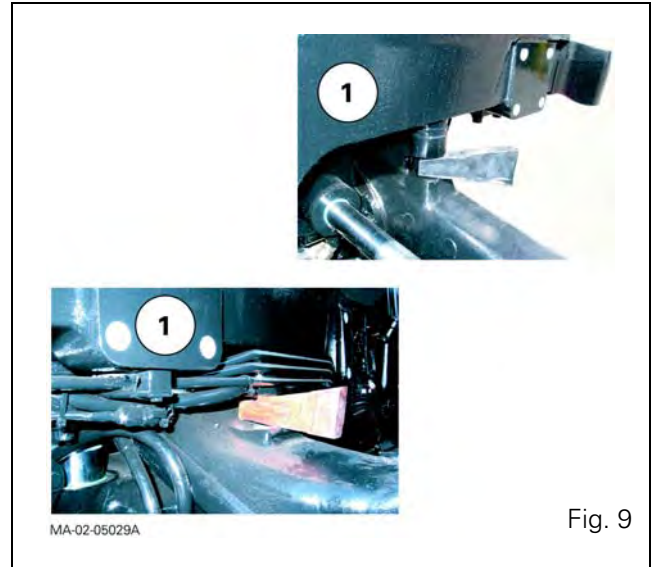

Fig. 9
19. Cancel the front axle oscillation (all versions) by sliding an suitable chock in at each side of the support (1) (Fig. 9).